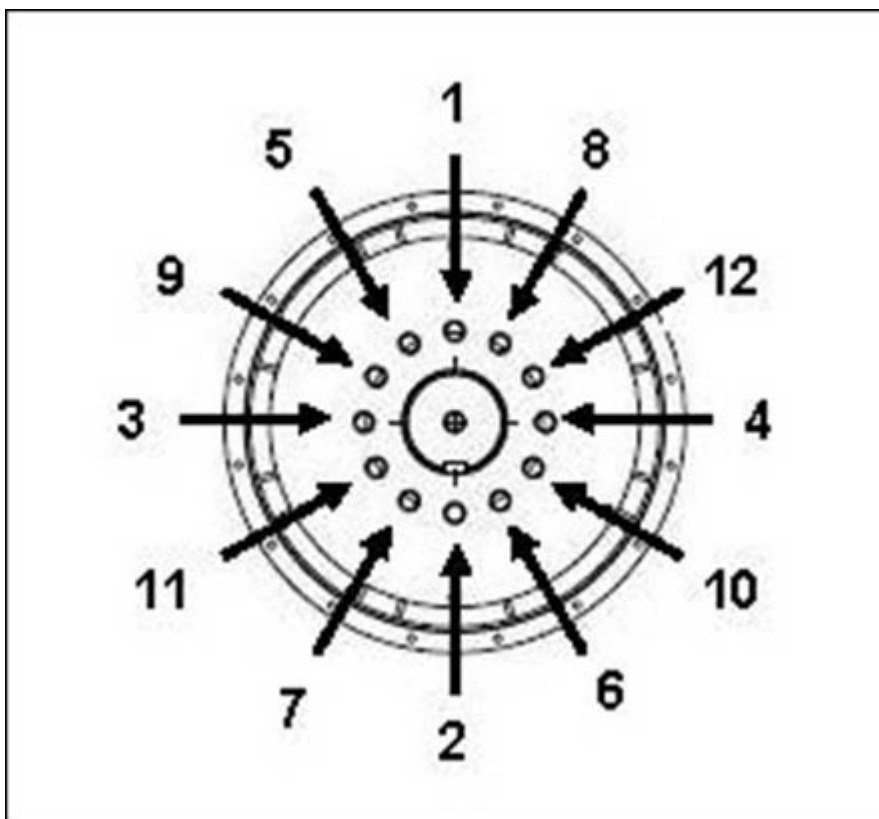

FIGURE 13. FIXING SEQUENCE TO HUB
4. If required, tighten the coupling disc bolts in the sequence shown in Figure 13 on page 25.